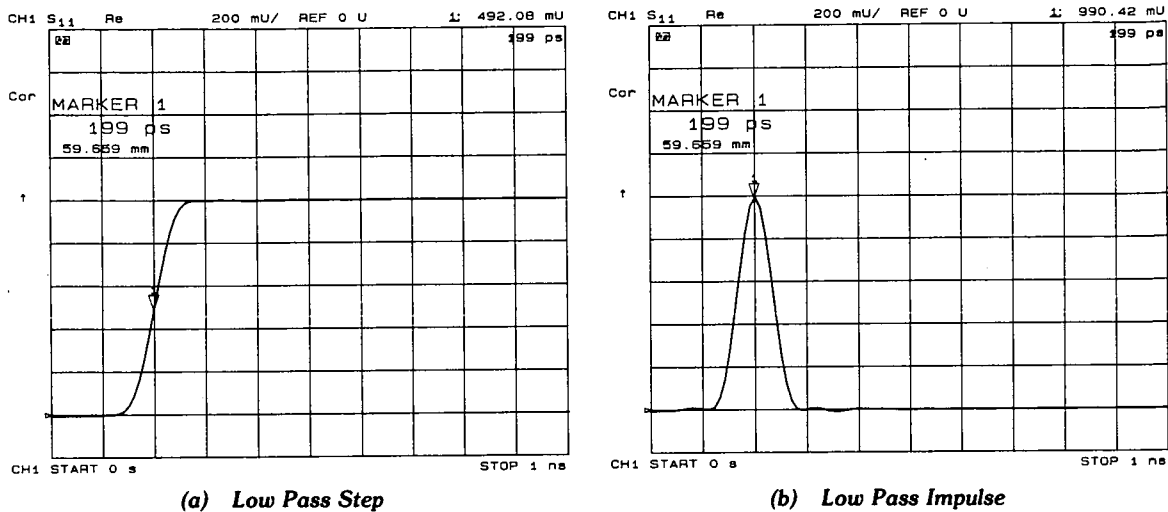

Figure 8-5. Time Domain Low Pass Measurements of an Unterminated Cable
9. Press **[FORMAT] [REAL] [SCALE REF] [AUTOSCALE]** to view the step response, as shown in Figure 8-5 (a). (The step response is reflected back from the unterminated cable.)
10. Press **[SYSTEM] [TRANSFORM MENU] [LOW PASS IMPULSE]** to view the impulse response, shown in Figure 8-5 (b).